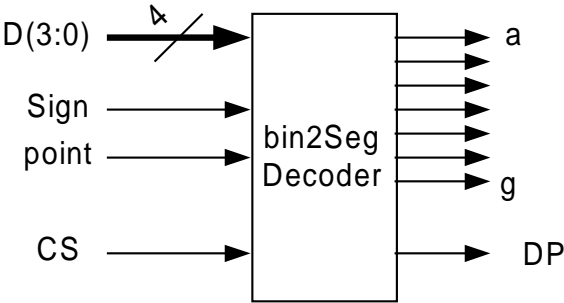

Figure 6
1. Figure 6 shows a more advanced implementation of 7-seg decoder. Here are the description for each pin: